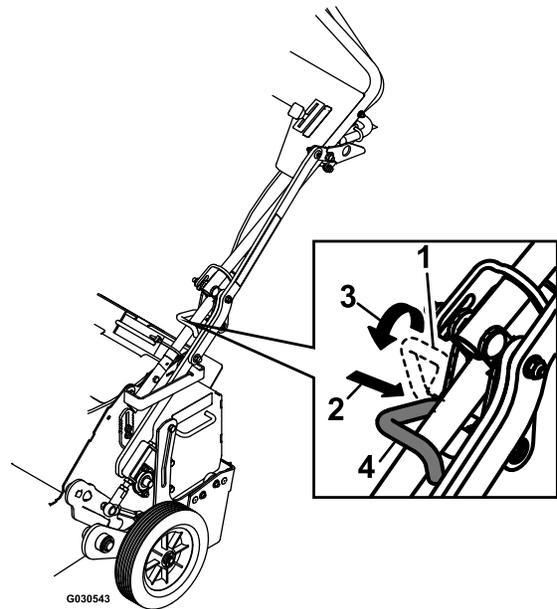

Figure 19
3. Attempt to lock the transport latch pin into the lower arm; refer to Figure 19.